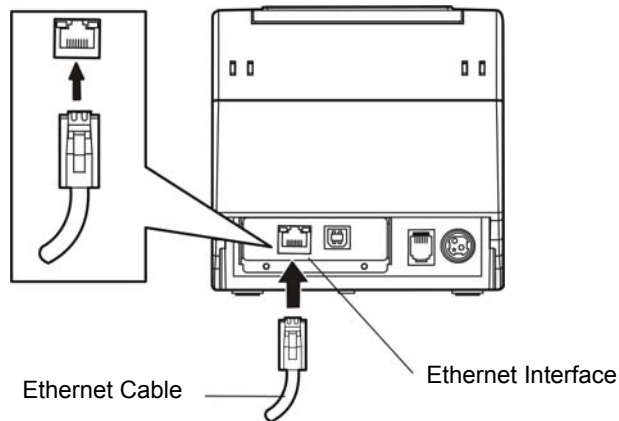

Fig 2-5 Connecting the Ethernet cable
1. Plug the crystal end of the Ethernet cable (RJ-45) into the printer's Ethernet interface as shown in Fig 2-5.